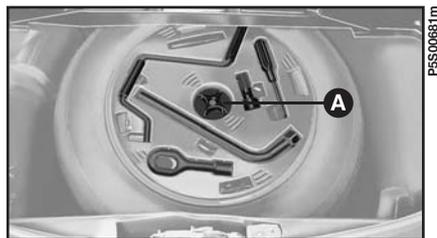

fig. 2
5) Unscrew the locking device **A** **fig. 2**. Lift out the tool kit and place it near the wheel to be changed and take out the space-saver spare wheel.